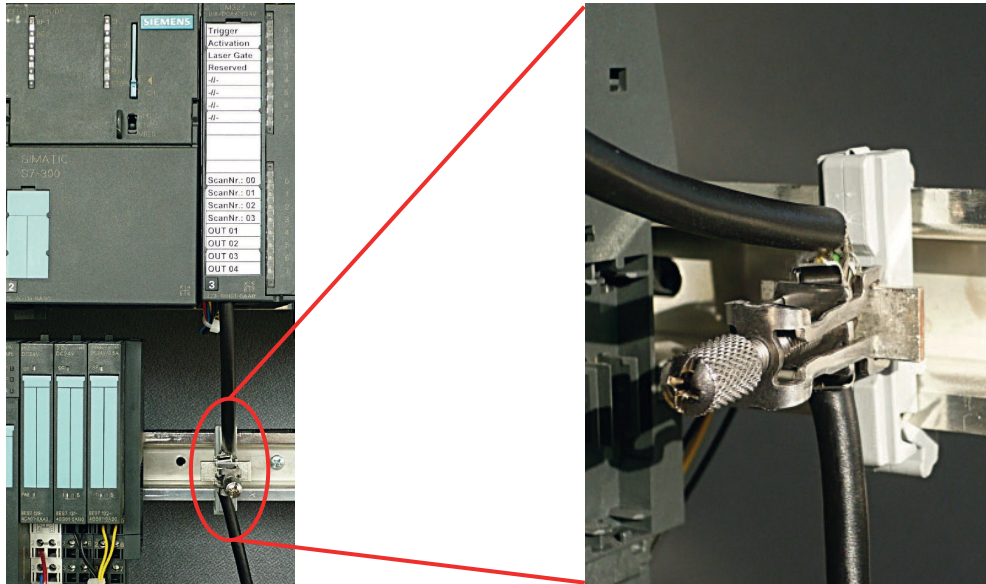

Figure 7.3: Connecting the cable shielding to the PLC
- ↳ Clamp the shield flat to FE in the PLC (see figure 7.3).